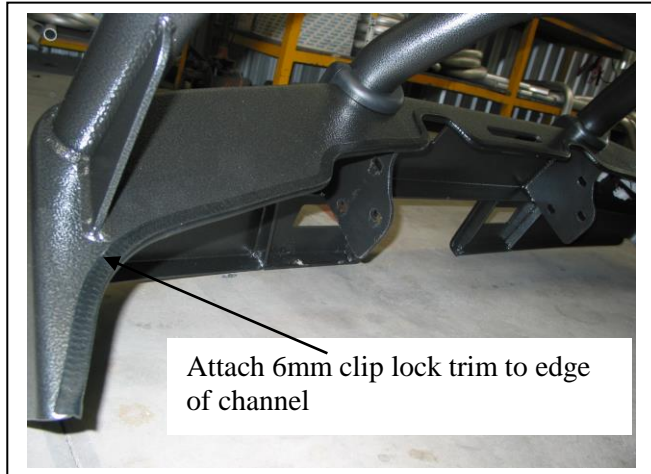

Figure 5
11. Attach 6mm clip lock trim (supplied) to top of ECB protection bar. **NOTE:** Trim off lower edge so trim will sit to end of protection bar. **See figures 5, 6 & 7** **NOTE:** Seal any exposed edges of trim with silicone or similar to avoid corrosion of inner steel.